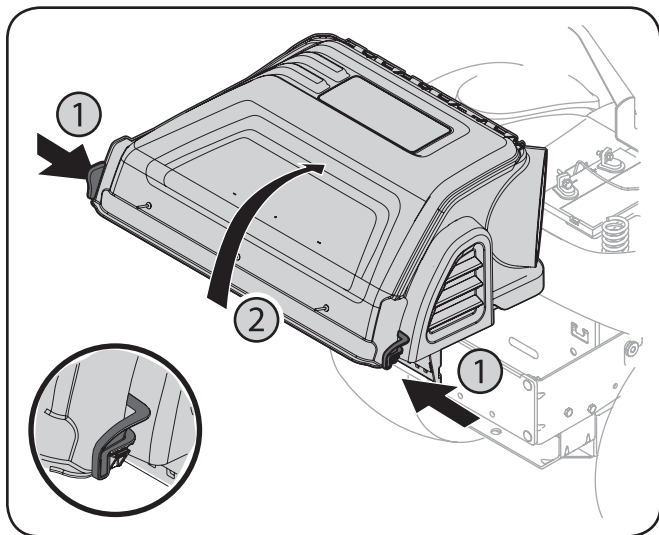

Figure 25
1. Open the grass catcher hood by pushing in on the rear, right-side tab with your right hand, as seen in 1 of Figure 25, and lifting the cover with your left hand in the center rear of the bagger cover, 2.